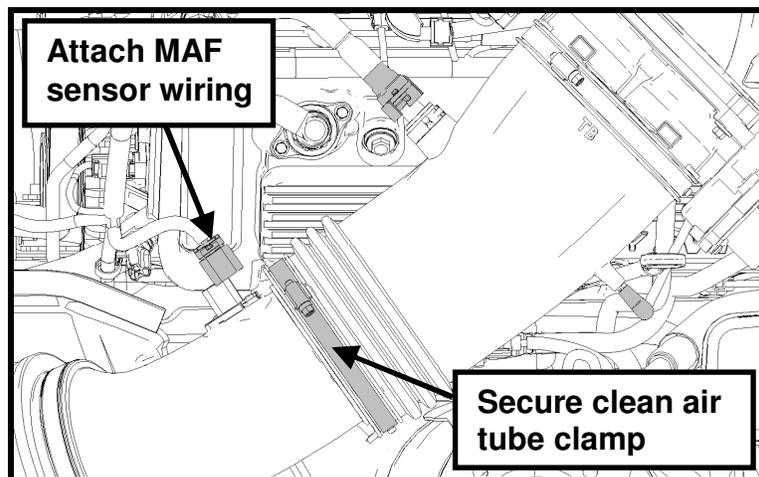

Fig. 12
**STEP 9:** Install the stock rubber clean air tube onto the new clean air tube. Tighten the worm drive clamp and torque to 3 Nm (26 lb in). Re-install the MAF electrical connector onto the MAF sensor (See Fig. 12).